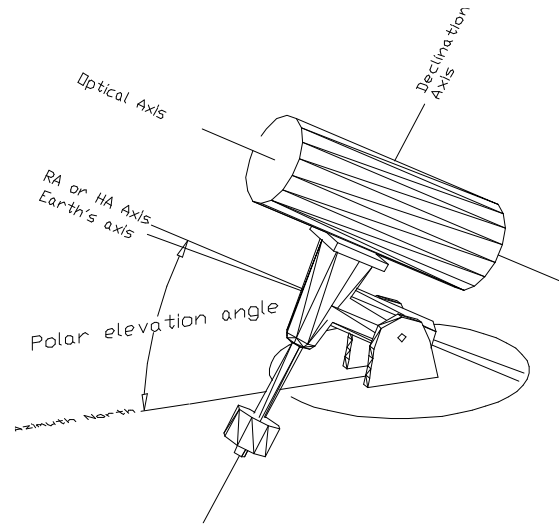

Figure 29: A German equatorial Mount.
Figure 29 and Figure 30 show the two most popular telescope mount designs. The following discussions relate to equatorial mounted telescopes. The Right Ascension (RA) or Hour Angle (HA) axis is pointed closely to the celestial pole.